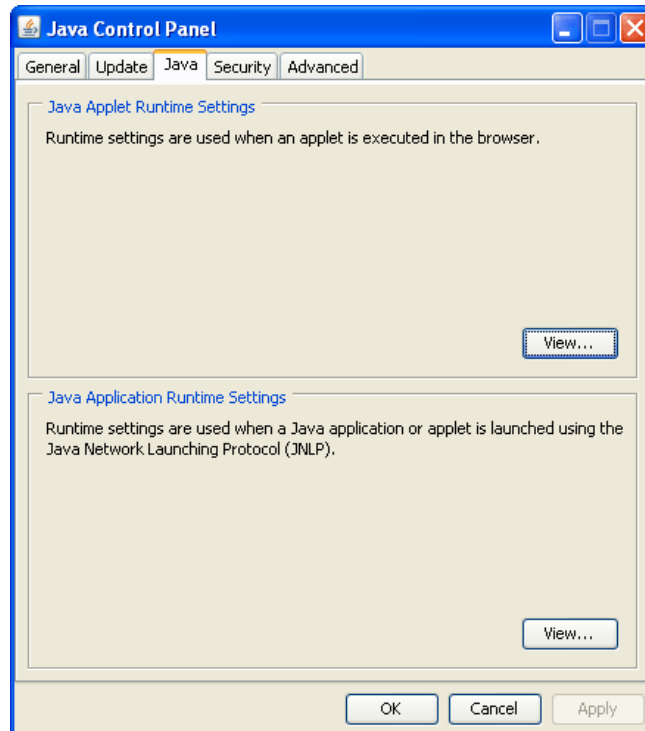

Figure 1-11: Java Tab
3. Click the **Java** tab. The **Java** tab is displayed (see Figure 1-11).